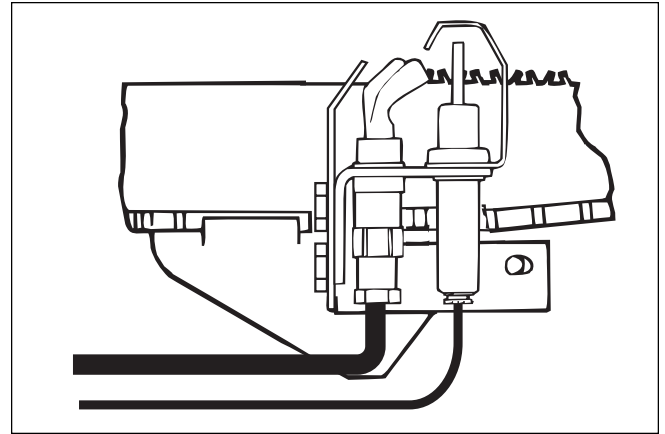

Figure 38. Pilot location (spark ignition).
4. Make sure the pilot burner is positioned next to the main burner (see Figure 38) and there is no soot or dirt on it.